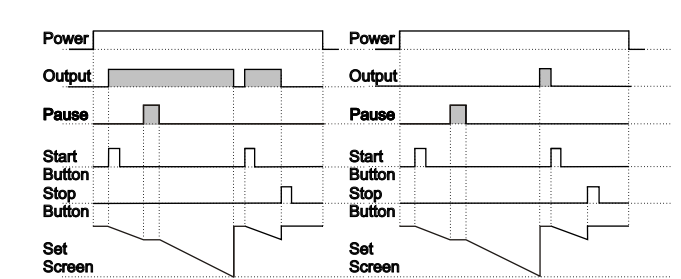

Figure 1.1 Figure 1.2
- 1.1.1 If downcount **dEc**=1 and **outf** is **on** the control diagram is shown in Figure 1.1